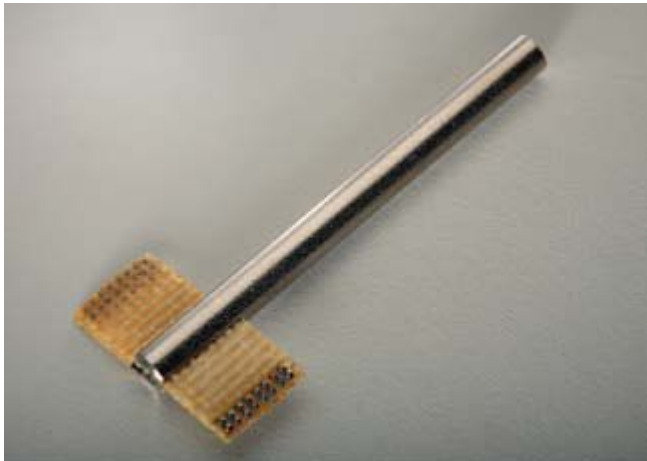

Figure 1. Roto peening flap in mandrel
Basically RP is a subtype version of conventional Shot Peening (SP) with the major difference being a defined number of contained shot in a polymeric flap accelerated by the rotation of a supporting mandrel (Figure 1).
The reason for this is the embedded shot position in the polymeric strip used in RP technology. First, the position of the embedded shot cannot cover the end of this strip (see Figure 1 and 3). Secondly, the stiffness of the strip limits its